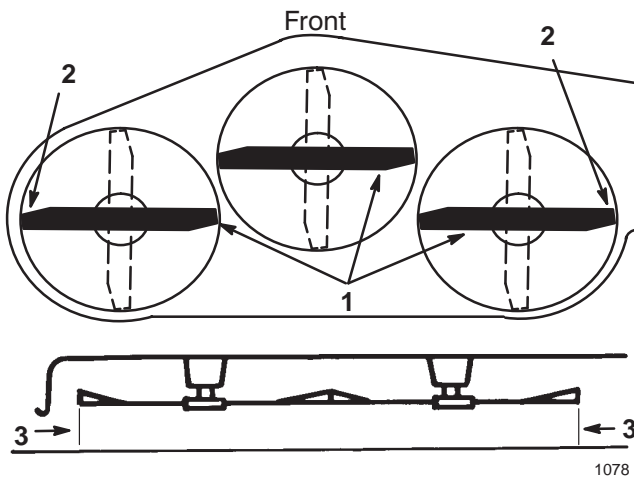

Figure 50
8. Carefully rotate the blades side to side (Fig. 50). Measure between the outside cutting edges and the flat surface (Fig. 50). If both measurements are not within 3/16 in. (5 mm), an adjustment is required; refer to steps 9 and 12.